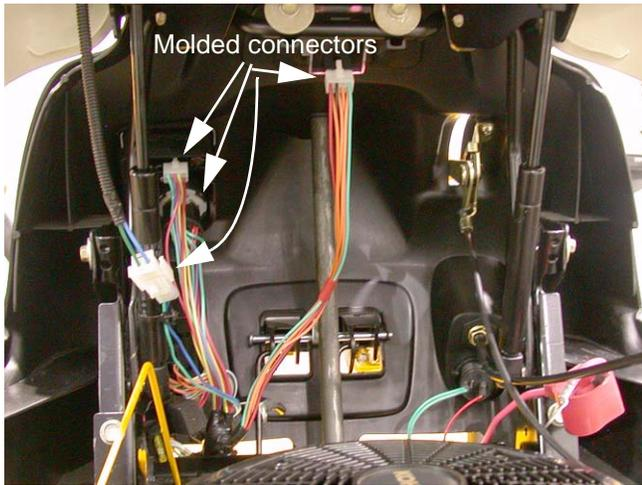

Figure 15.5
- 15.5. Disconnect the following dash-mounted electrical devices by unplugging the molded connectors: See Figure 15.5.